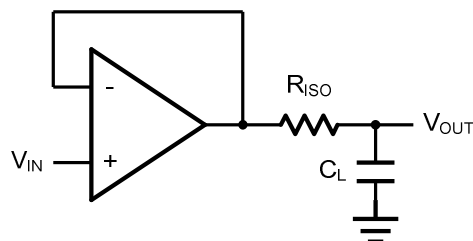
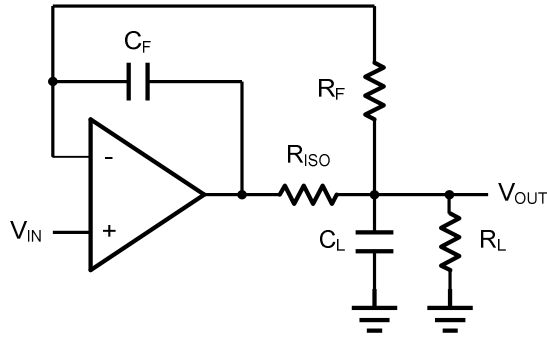

Figure 2. Indirectly Driving a Capacitive Load Using Isolation Resistor
Figure 3. Indirectly Driving a Capacitive Load with DC Accuracy
The OPAx335 family is optimized for bandwidth and speed, not for driving capacitive loads. Output capacitance will create a pole in the amplifier's feedback path, leading to excessive peaking and potential oscillation. If dealing with load capacitance is a requirement of the application, the two strategies to consider are (1) using a small resistor in series with the amplifier's output and the load capacitance and (2) reducing the bandwidth of the amplifier's feedback loop by increasing the overall noise gain. Figure 2. shows a unity gain follower using the series resistor strategy. The resistor isolates the output from the capacitance and, more importantly, creates a zero in the feedback path that compensates for the pole created by the output capacitance.
The circuit in Figure 3 is an improvement to the one in Figure 2.  $R_{\text{F}}$  provides the DC accuracy by feed-forward the  $V_{\text{IN}}$  to  $R_{\text{L}}$ .  $C_{\text{F}}$